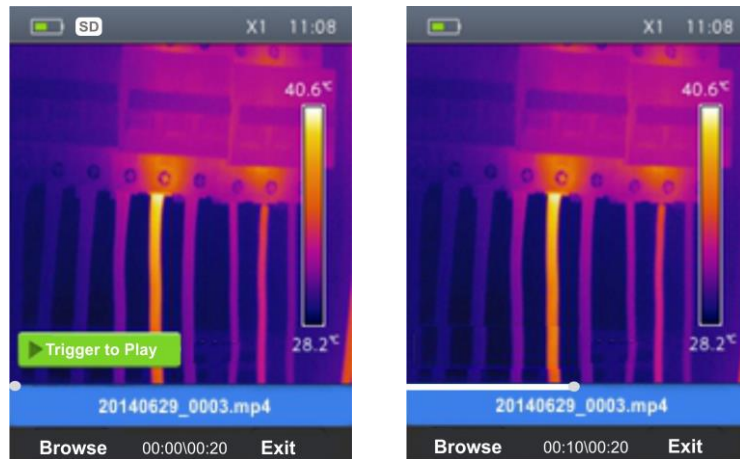

Fig. 33: Playback of videos on the display
1. Press the key  and recall the video on the display (see Fig. 33 – Left side).
4. Press the **T** (Trigger) key to activate video playback. A cursor and progress bar are shown on the display (see Fig. 33 – Right side).